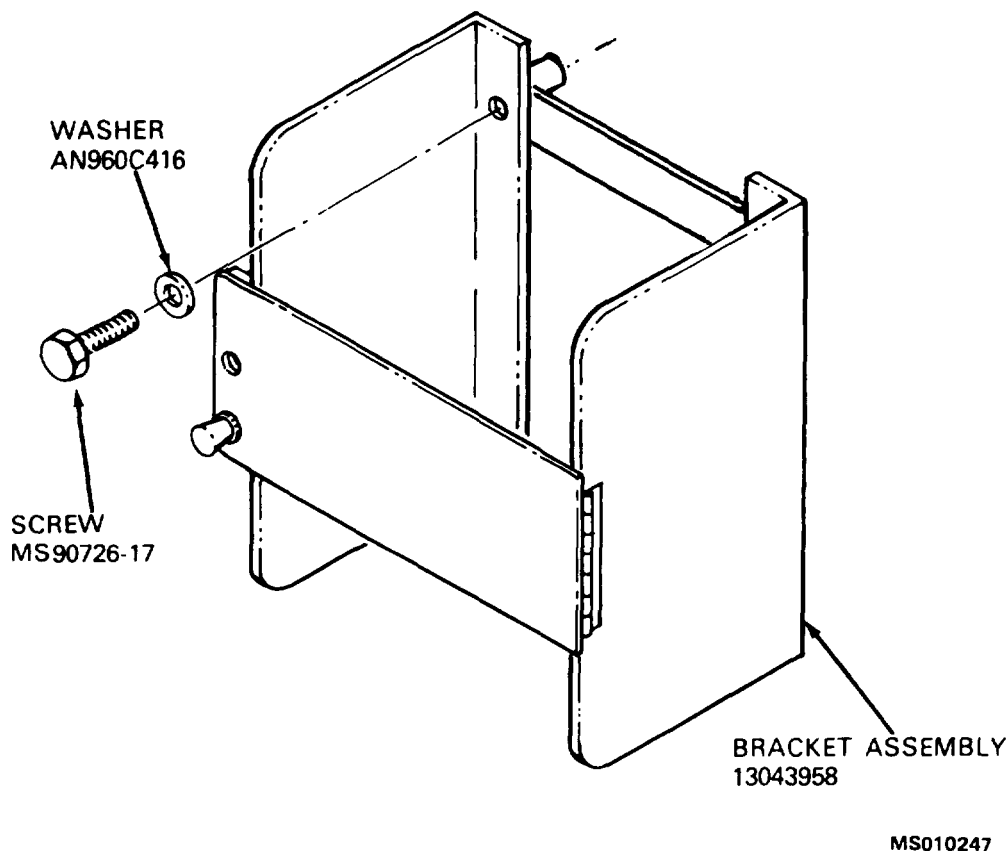

FIGURE 3-4. BRACKET MOUNTING
k. Mount the bracket with one screw and one washer as shown in figure 3-4.
- o. Mount the bracket in the vehicle using four screws and four flatwashers as shown in figure 3-4.
- q. The Bracket Assembly shown in figure 3-4 above does not reflect the latest configuration with the tracker tie-down strap installed inside. Refer to assembly drawing # 13043958 (Appendix A) for strap installation instructions and location.